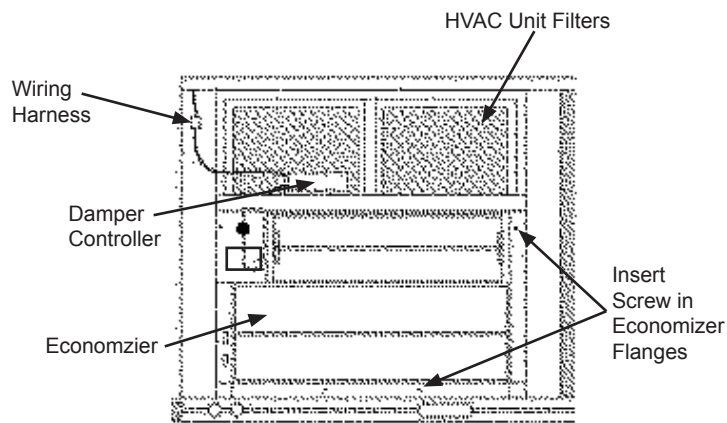
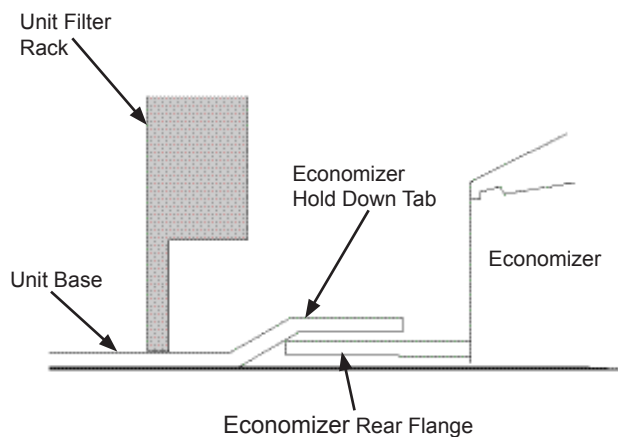

Fig. 5 - Economizer Installed in HVAC Unit (ECD-SRT12SA Shown)
Fig. 6 - Rear Economizer Flange Installation (ECD-SRT12SA and ECD-SRT34SA Only)
6. Set the economizer upright. (See Fig. 5.)
7. Slide the damper assembly into the rooftop unit. (See Fig. 5). On ECD-SRT12SA and ECD-SRT34SA be sure to engage the rear economizer flange under the tabs in the return-air opening of the unit base. (See Fig. 6)